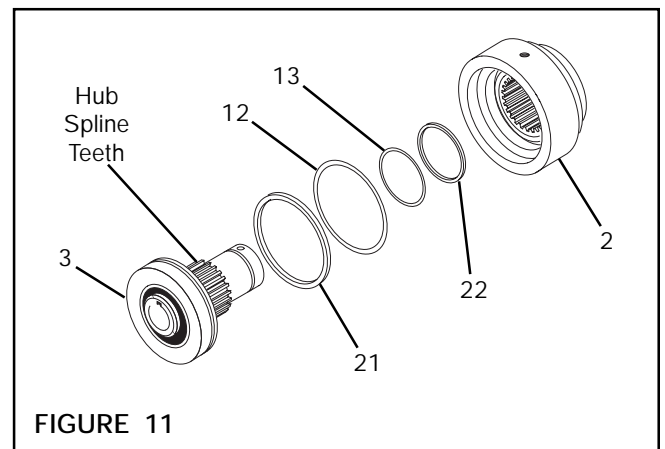

FIGURE 11
1. Coat O-ring seal contact surfaces of Piston (Item 3) and Cylinder (Item 2) with a thin film of O-ring lubricant (See Figure 11).
2. Coat O-ring Seals (Items 12 and 13) with a thin film of O-ring lubricant (See Figure 11).
3. Install O-ring Seals (Items 12 and 13) and Backup Ring Seals (Items 21 and 22) on Piston (Item 3) and Cylinder (Item 2) (See Figure 11).
4. Coat the Hub spline teeth with Never-Seez® (See Figure 11).
5. Making sure not to damage O-ring Seals (Items 12 and 13), press Piston (Item 3) into Cylinder (Item 2) (See Figure 11).